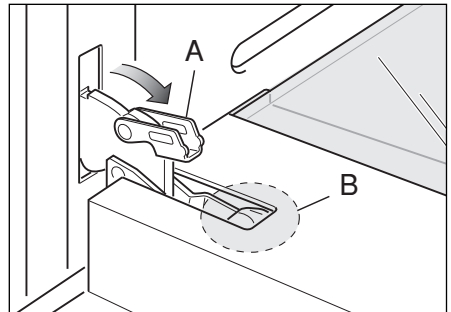

Fig.57b
- Open the lever "A" completely on the left and right hinges (Fig. 57b).